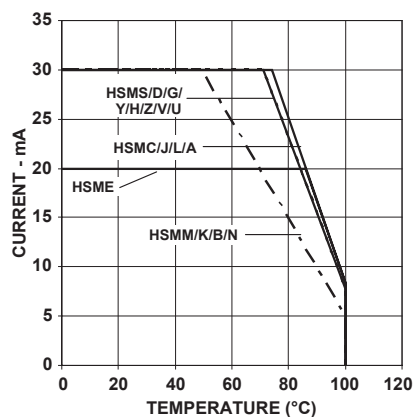

Figure 4. Maximum forward current vs. ambient temperature. Derated based on $T_J\text{MAX} = 110^\circ\text{C}$, $R\theta_{JA} = 500^\circ\text{C/W}$.
1. Derate linearly as shown in Figure 4.